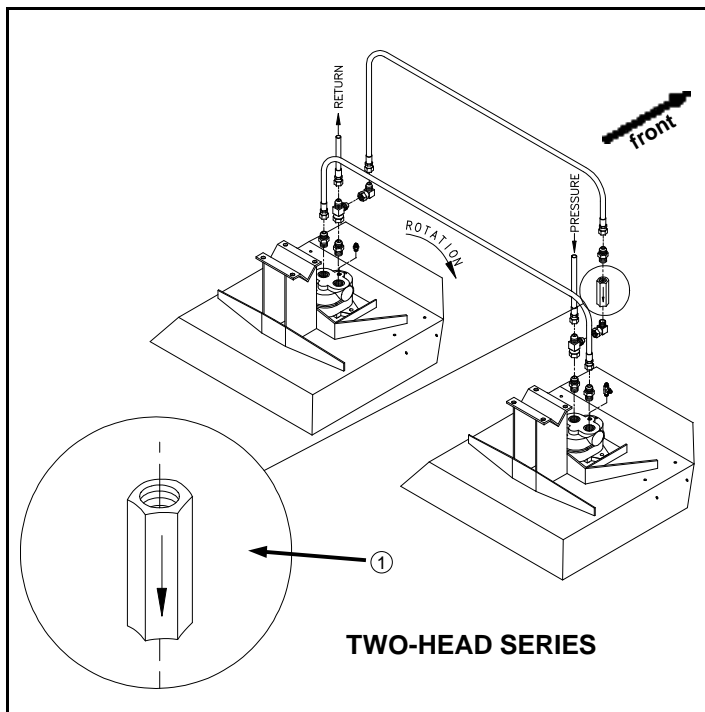
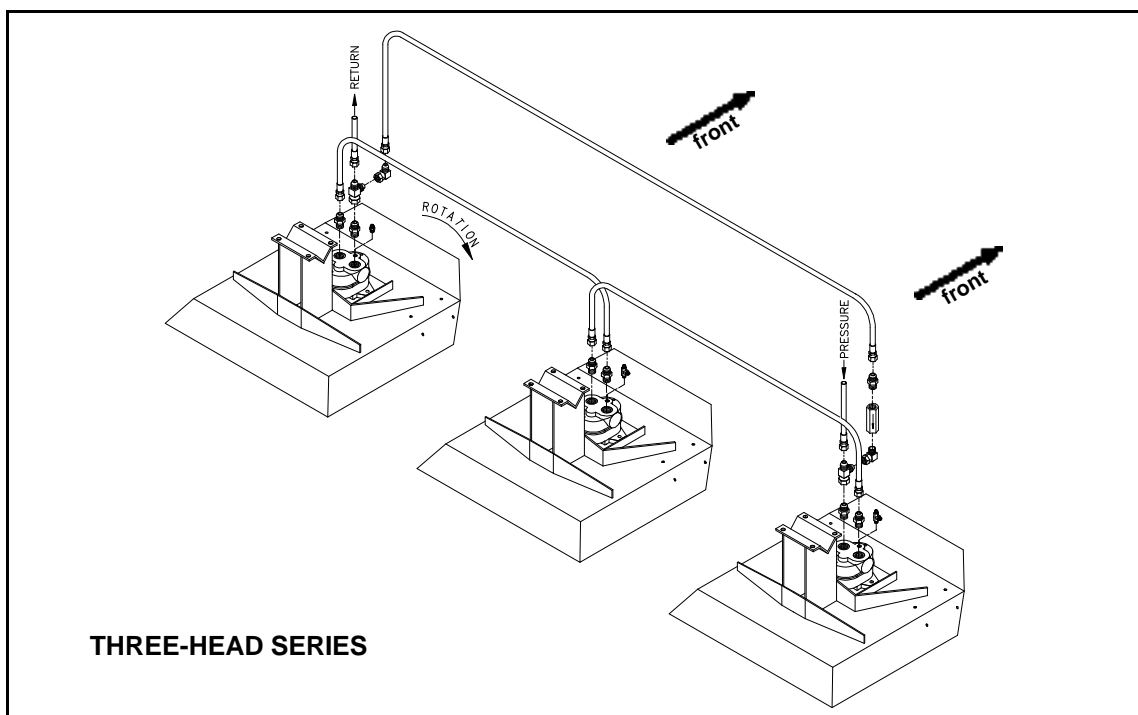

FIG 4.21
FIG 4.22
Hydraulic hoses on cutter heads should be hooked up so blades on heads mounted right of operator rotate according to figure 4.21 and figure 4.22 (clockwise from above). Refer to 204 SP DETASSELER Parts Manual for correct hardware, hose lengths, and hydraulic schematic.
Care should be taken when installing check valve (fig. 4.21, item 1) on cutter motor so the flow arrow is oriented correctly (either two-head or three-head series).